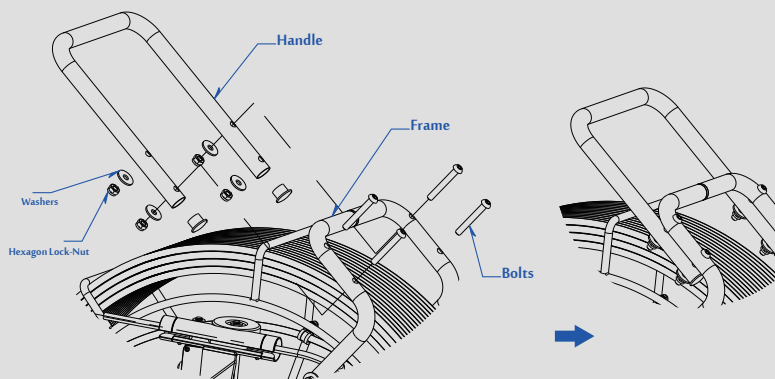

Figure 9. Install handle
4. Install Handle (See Figure 9)